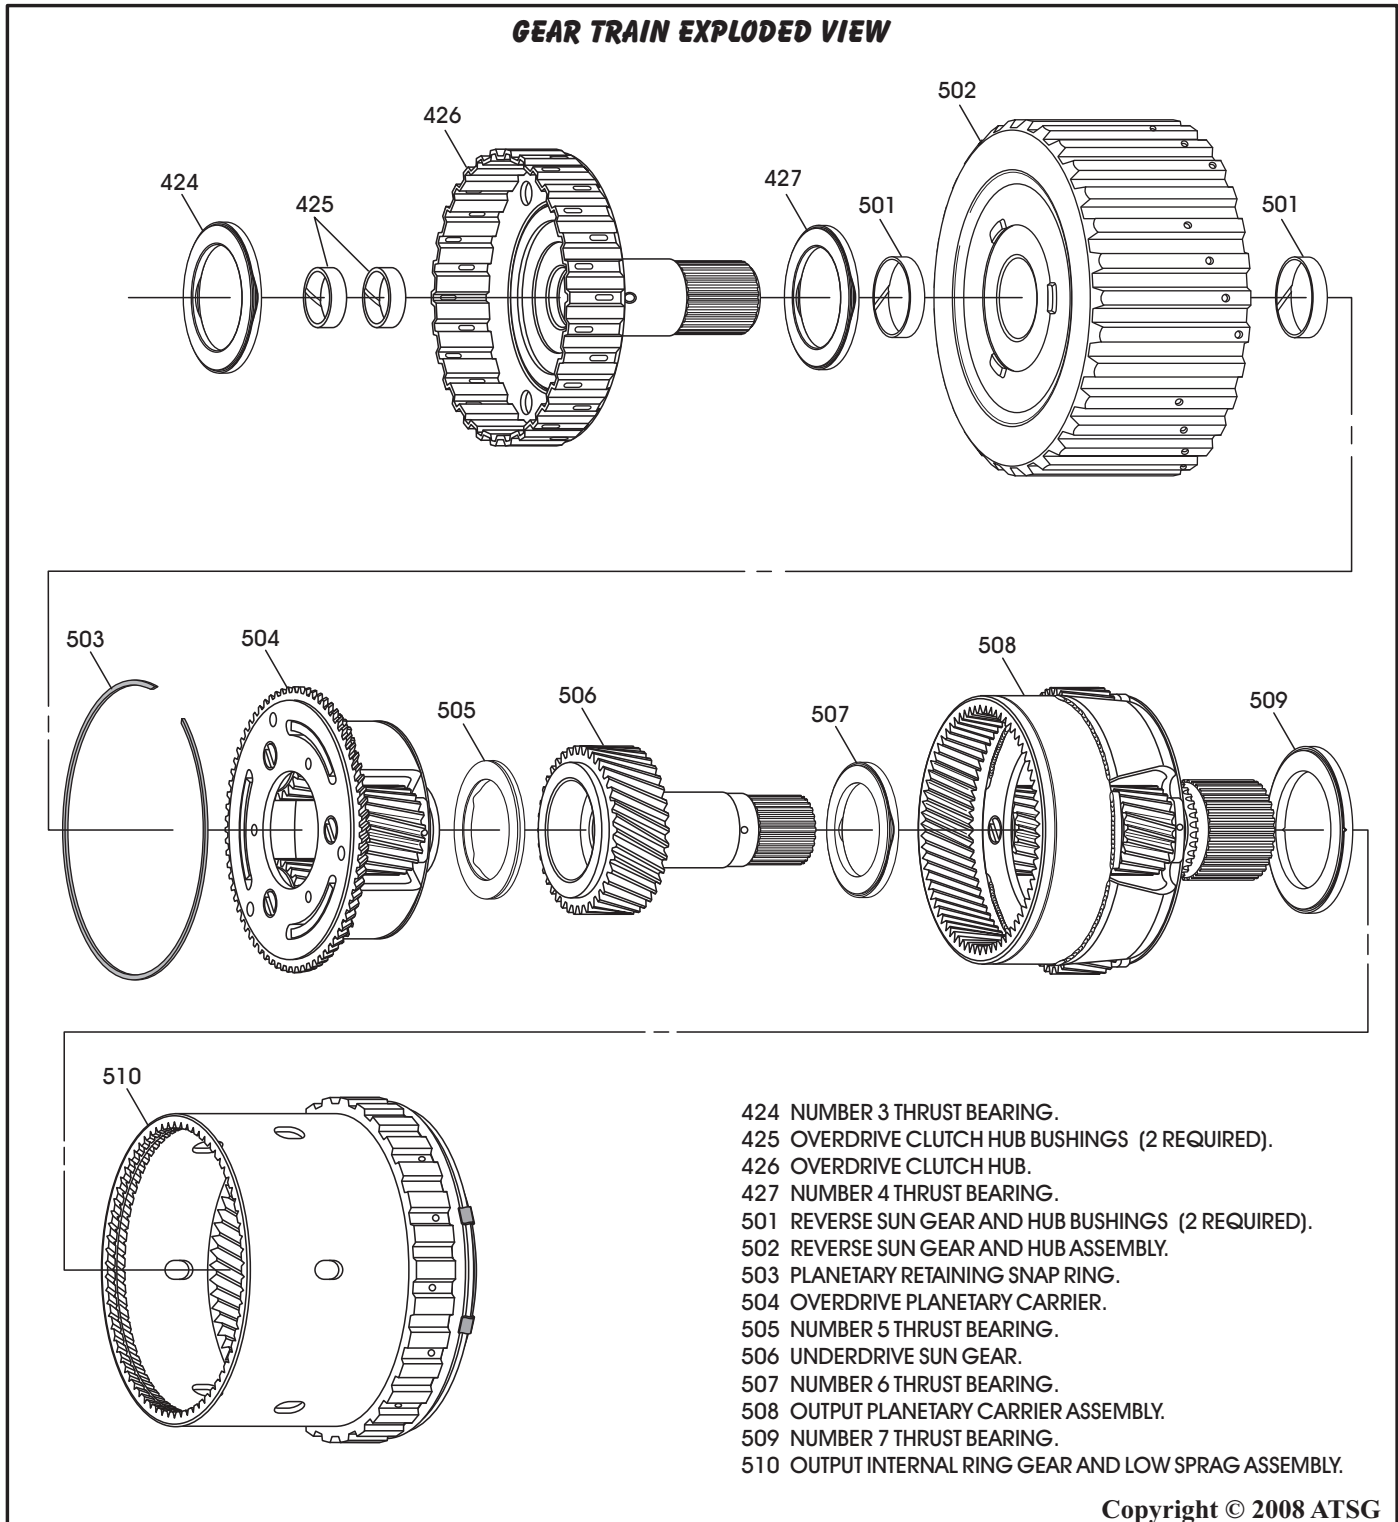

Figure 103
1. Disassemble planetary, sun gear, and low sprag assembly, using Figure 103 and 104 as a guide.